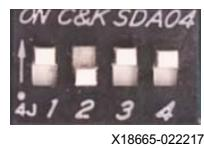

Figure 24: MODE[3:0] DIP Switch Setting (ON ON OFF ON)
4. Set MODE[3:0] pins (SW6) to ON ON OFF ON. Note that for this DIP switch, in relation to the arrow, moving the switch toward the label ON is a 0. DIP switch labels 1 through 4 are equivalent to Mode pins 0 through 3. See Figure 24.